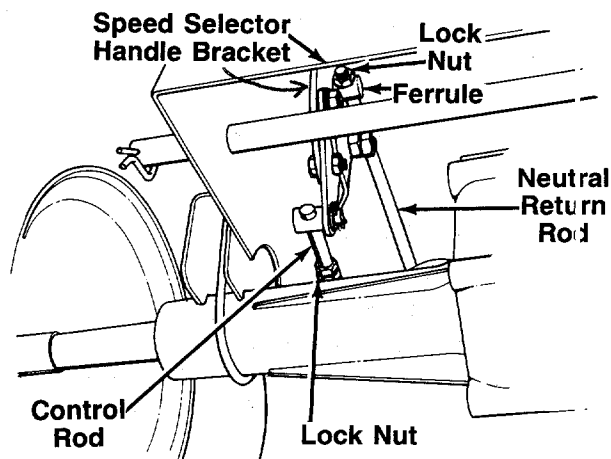

FIGURE 15.
To adjust: (See figure 15)
2. Loosen the lock nut (left hand thread) on the end of the control rod. See figure 15.